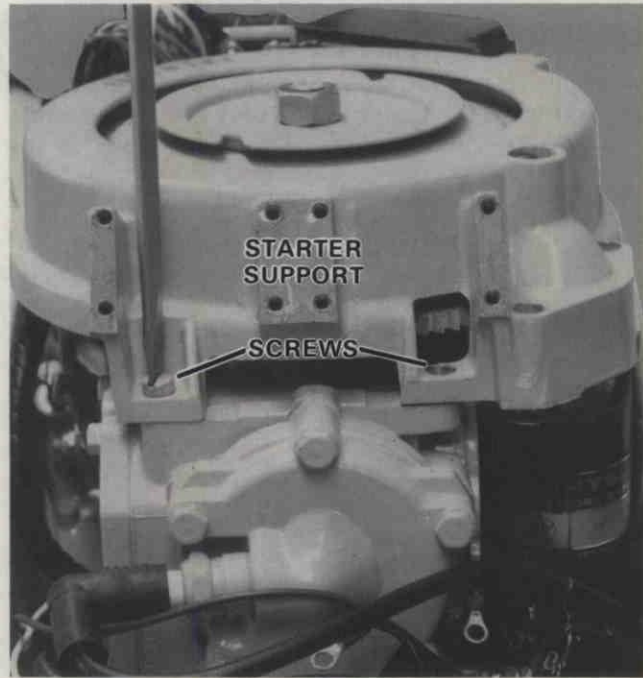

Figure 8. Unfastening Starter Support.
2. Remove four (4) screws securing coils to starter support.
3. Remove two (2) screws securing starter to starter support plate. Lay starter in support plate.
4. Remove four (4) screws securing starter support to starter support bracket on power head. Figure 8.